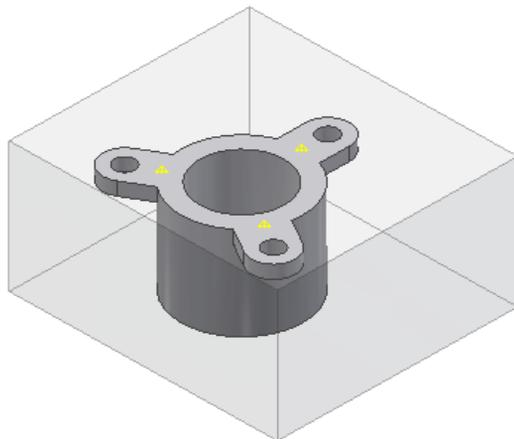

Figure 19-52 The workpiece created
3. Choose the **OK** button from the dialog box; the workpiece is created, refer to Figure 19-52.